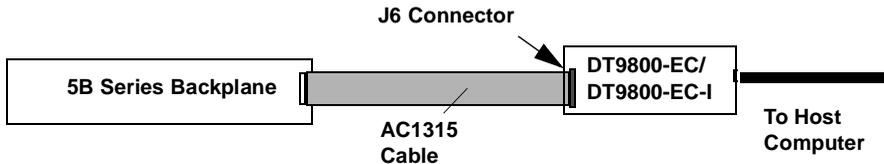

Figure 6: Connecting the AC1315 Cable to the 5B Series Backplane
2. If you are using a 5B Series backplane, plug the other end of the AC1315 cable into the 26-pin connector on the 5B Series backplane, as shown in Figure 6.